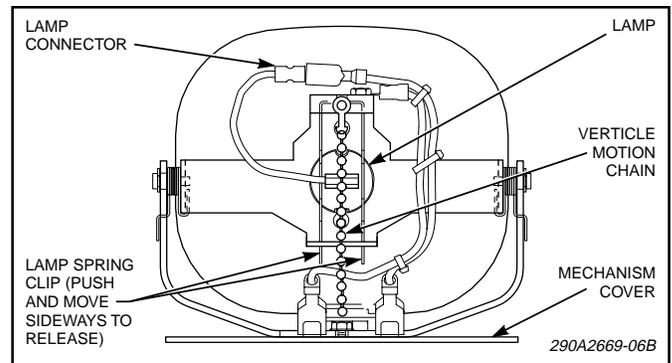

Figure 4.
B. Lamp Replacement (see figure 4).